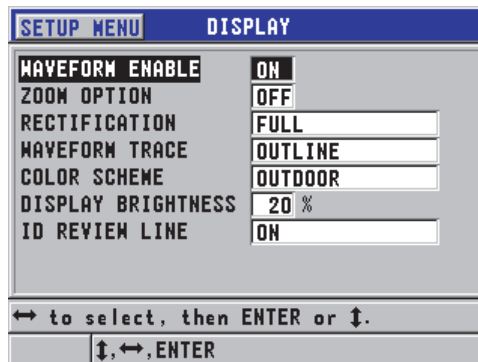

Figure 4-4 The DISPLAY screen
2. In the **DISPLAY** screen (see Figure 4-4 on page 56), select the desired parameter and value for the following parameters:
2. In the **DISPLAY** screen (see Figure 4-4 on page 56), set the **COLOR SCHEME** to **INDOOR** or **OUTDOOR**.
2. In the **DISPLAY** screen (see Figure 4-4 on page 56), set the **DISPLAY BRIGHTNESS** to the desired percentage level.